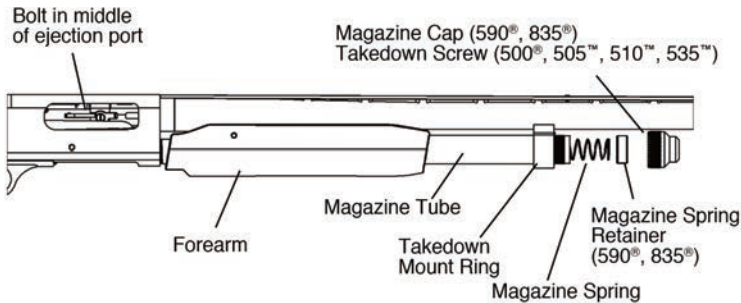

Fig. 5
**All Models:** Depress the action lever and move the forearm rearward until the front of the bolt is in the middle of the ejection port (Fig. 5).
Slide the barrel takedown mount ring over the magazine tube while guiding the barrel into the receiver (Fig. 5).